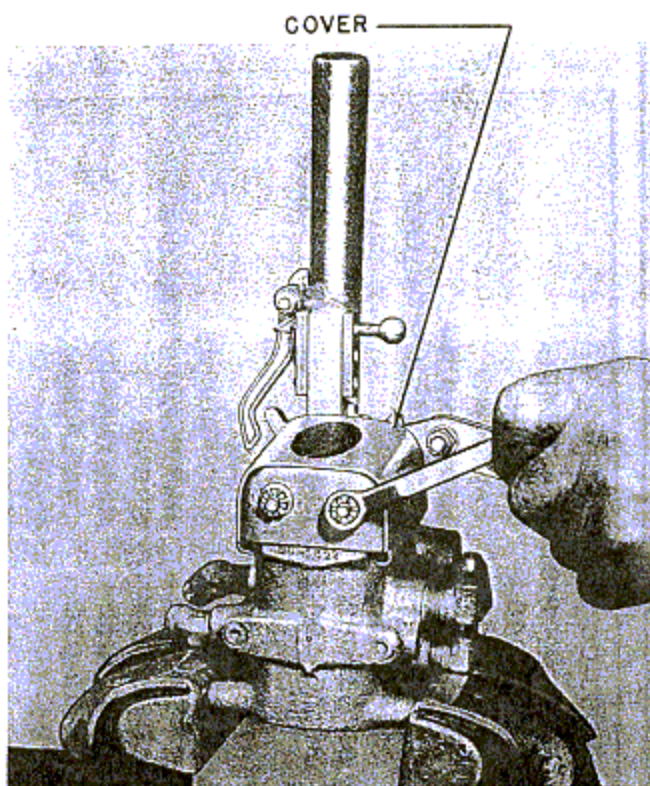

Figure 228—Removing Nut on Camshaft Bolt
1. Clamp the control valve in a vise with aluminum covered jaws at the four attachment bosses. Remove the cotter pins and nuts from the two camshaft bolts. (See figure 228.)